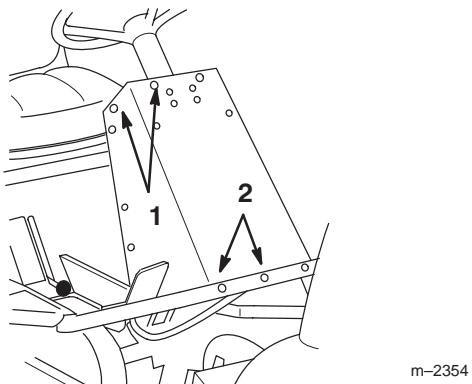

Figure 10
1. Remove (2) screws (front and right side) securing front of steering tower to dash (Fig. 10). Retain screws for reassembly of deck.
2. Remove (2) screws (center and right) securing bottom of tower to frame channel (Fig. 10). Retain screws for reassembly.